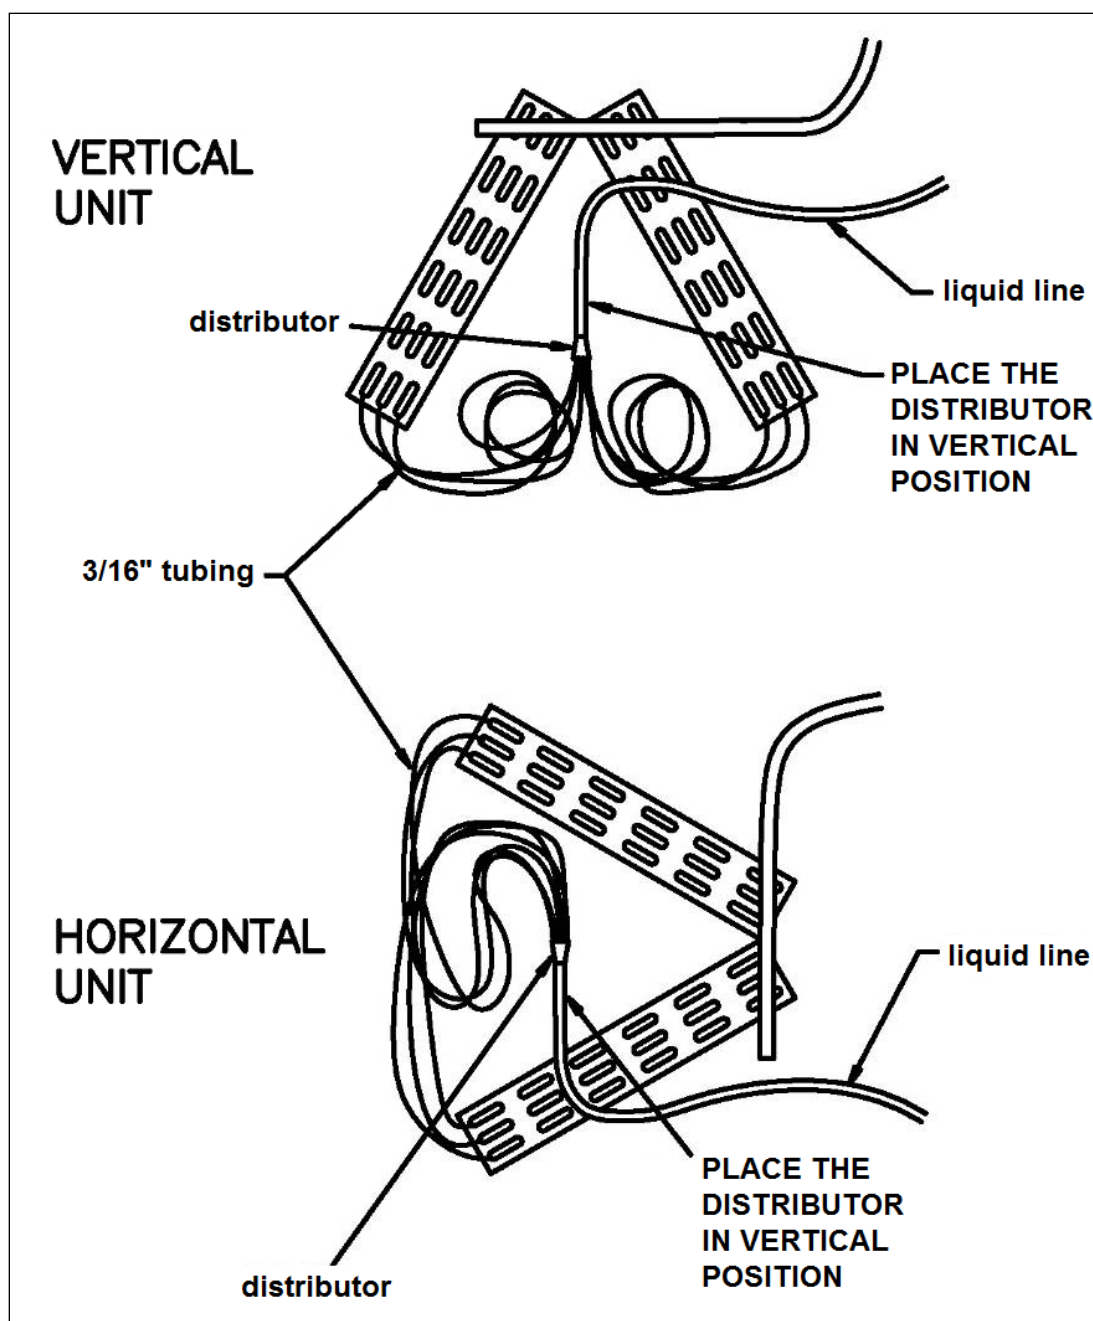

Figure 13. Typical Air Handler/Cased Coil After Conversion
2. The distributor must be reoriented so that in its final installation position it is vertical (up or down) to ensure equal distribution of refrigerant to each of the coil circuits. Rotate the distributor 90° in steps, while simultaneously reconfiguring the coil feeder tubes to avoid kinking and ensure smooth refrigerant flow to the circuits. When completed, the reconfigured distributor and feeder tube arrangement should look similar to those in Figure 13.